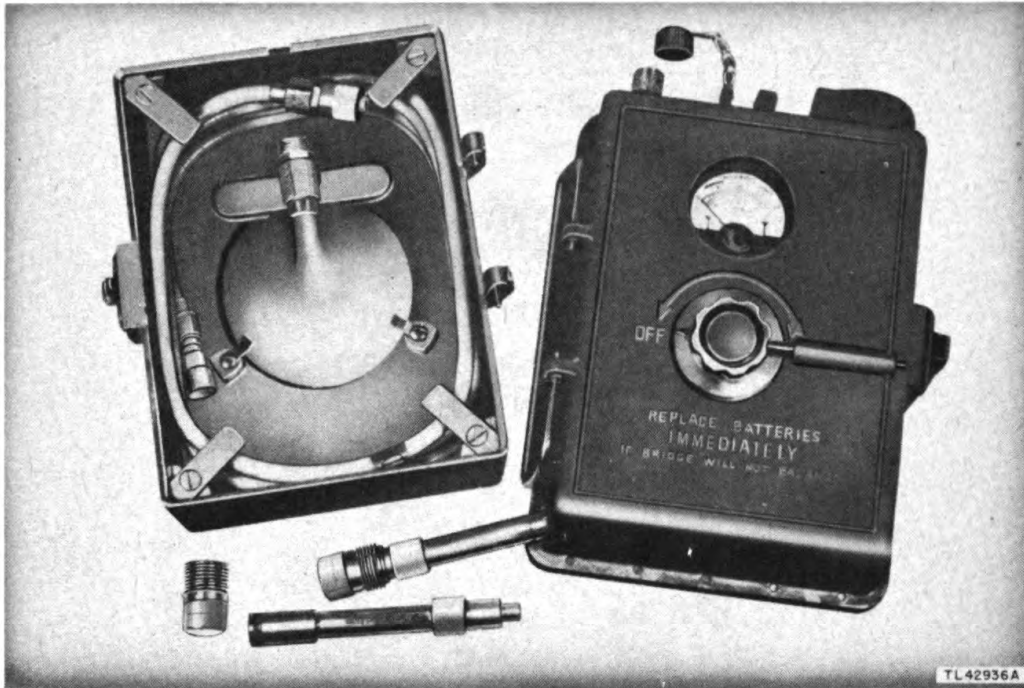

Figure 4. Power Meter TS-125/AP.
6. POWER METER TS-125/AP (fig. 4).